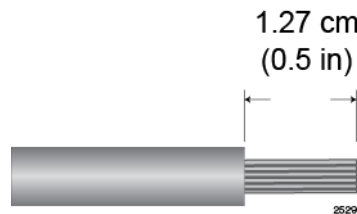

Figure 52. Stripping the Stranded Grounding Wire
1. Prepare an adequate length of stranded 10 AWG grounding wire by stripping it as shown in Figure 52.